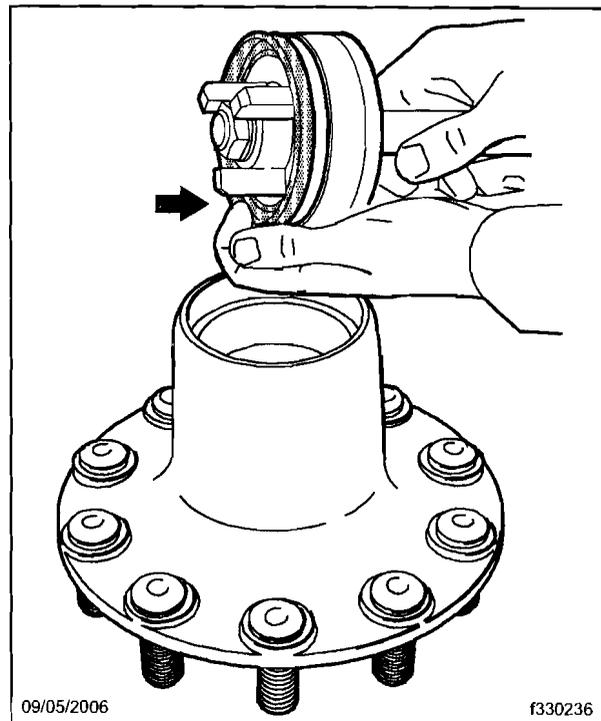

Fig. 2, Placing the Seal on the Installation Tool
- 14.1 Seat the small outside edge of the seal in the recess of the tool adapter. See Fig. 2. The correct adapter is identified on the box.